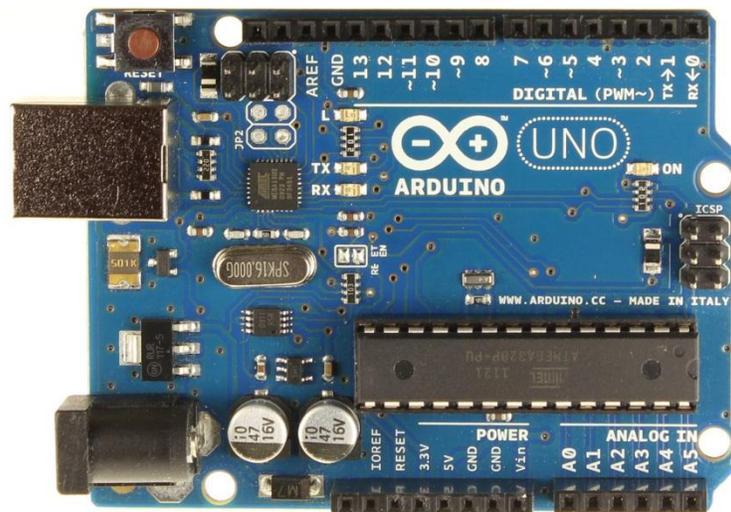
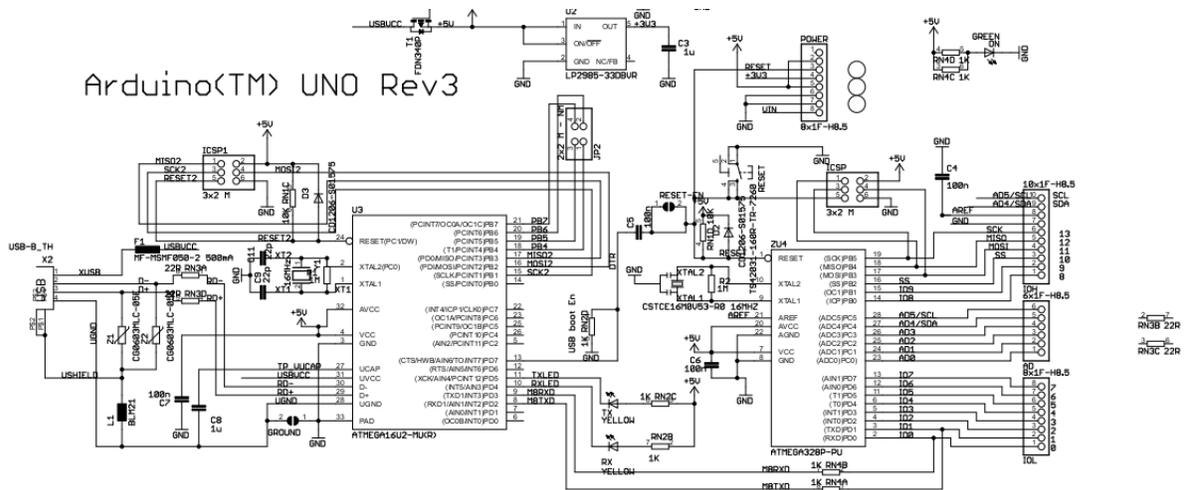

Figure 1: Arduino Uno Rev. 3
Figure 2: Partial Schematic of Arduino Uno
Both **Figure 1** and **Figure 2** show the components of the Arduino Uno. It operates at 5 Volts (V). Some components include 14 digital input and output pins, as well as 5 digital pins. There is an option of 3.3Volt (V) or 5V pin as well as a ground pin. The Arduino can be powered either by a USB cable that connects to an external personal computer (PC) or a connection to a battery source. (1).